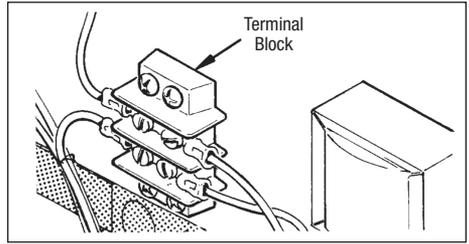

Figure 17. Terminal block for fireman's switch or remote control wiring.
An interrupt (on/off) type remote can be connected by removing the jumper wire on the terminal block located in the control compartment, see Figure 17 and connecting the two (2) wires from the remote to the two (2) terminals on the terminal block. This type of remote control will turn the heater on or off, but will not switch between the two (2) temperature controllers on the temperature control panel or allow for temperature adjustments.